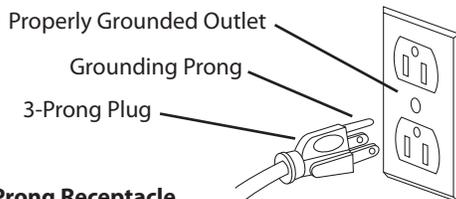

Figure 1 – 3-Prong Receptacle
- This buffer is equipped with an approved 3-conductor cord rated at 300V and a 3-prong, grounding type plug (See Figure 1) for your protection against shock hazards.
- Grounding plug should be plugged directly into a properly installed and grounded 3-prong grounding-type receptacle (See Figure 1).